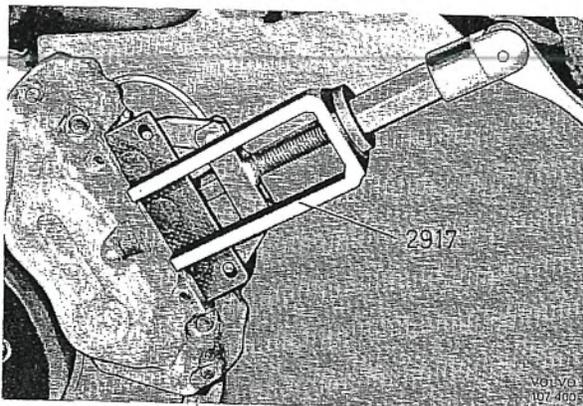

Fig. 5-14. Removing brake pads
4. Pull out the pads with tool 2917, see Fig. 5-14.